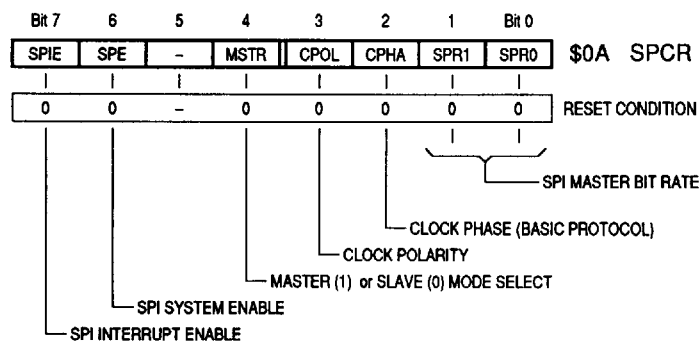

Figure 3-31. Serial Peripheral Control Register
3.7.4.1 SERIAL PERIPHERAL CONTROL REGISTER (SPCR). In most systems, this register (Figure 3-31) is written only once shortly after reset to initialize the SPI system.